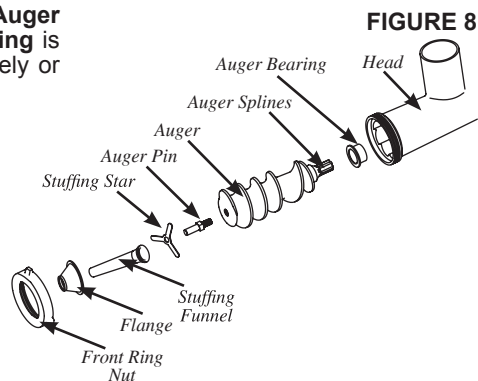

FIGURE 8
3. Insert the **Auger**, with the **Auger Bearing** attached, into the **Head** (Figure 8). Align the **Auger Splines** with the **Drive Shaft** of the **Grinder**.